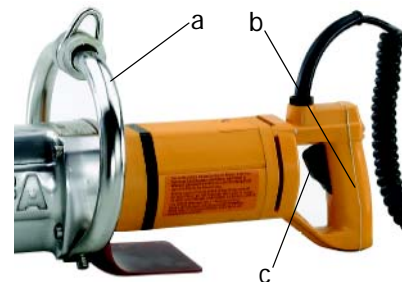

Figure 2: Switch operation
- To switch on, press switch (c) with the index and middle fingers (see Fig. 2)